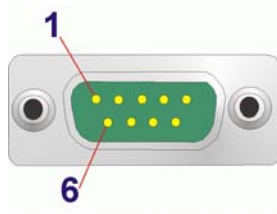

Figure 3-22: COM1 Pinout Locations
- CN Pinouts:** See **Table 3-23** and **Figure 3-22**